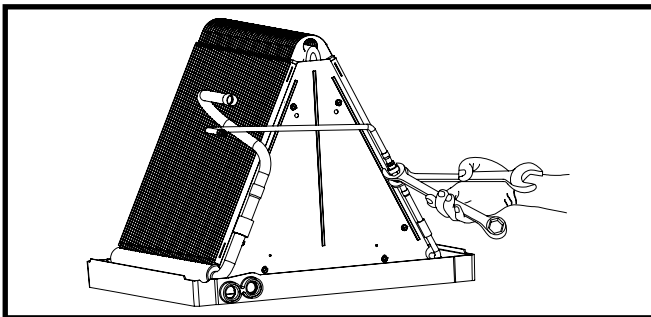

Figure 2. Loosening of Nut & Distributor Body
1. Using two wrenches, loosen the nut and distributor body as shown in Figure 2. Turn the assembly nut counter-clock-wise until the orifice body halves are seperated.